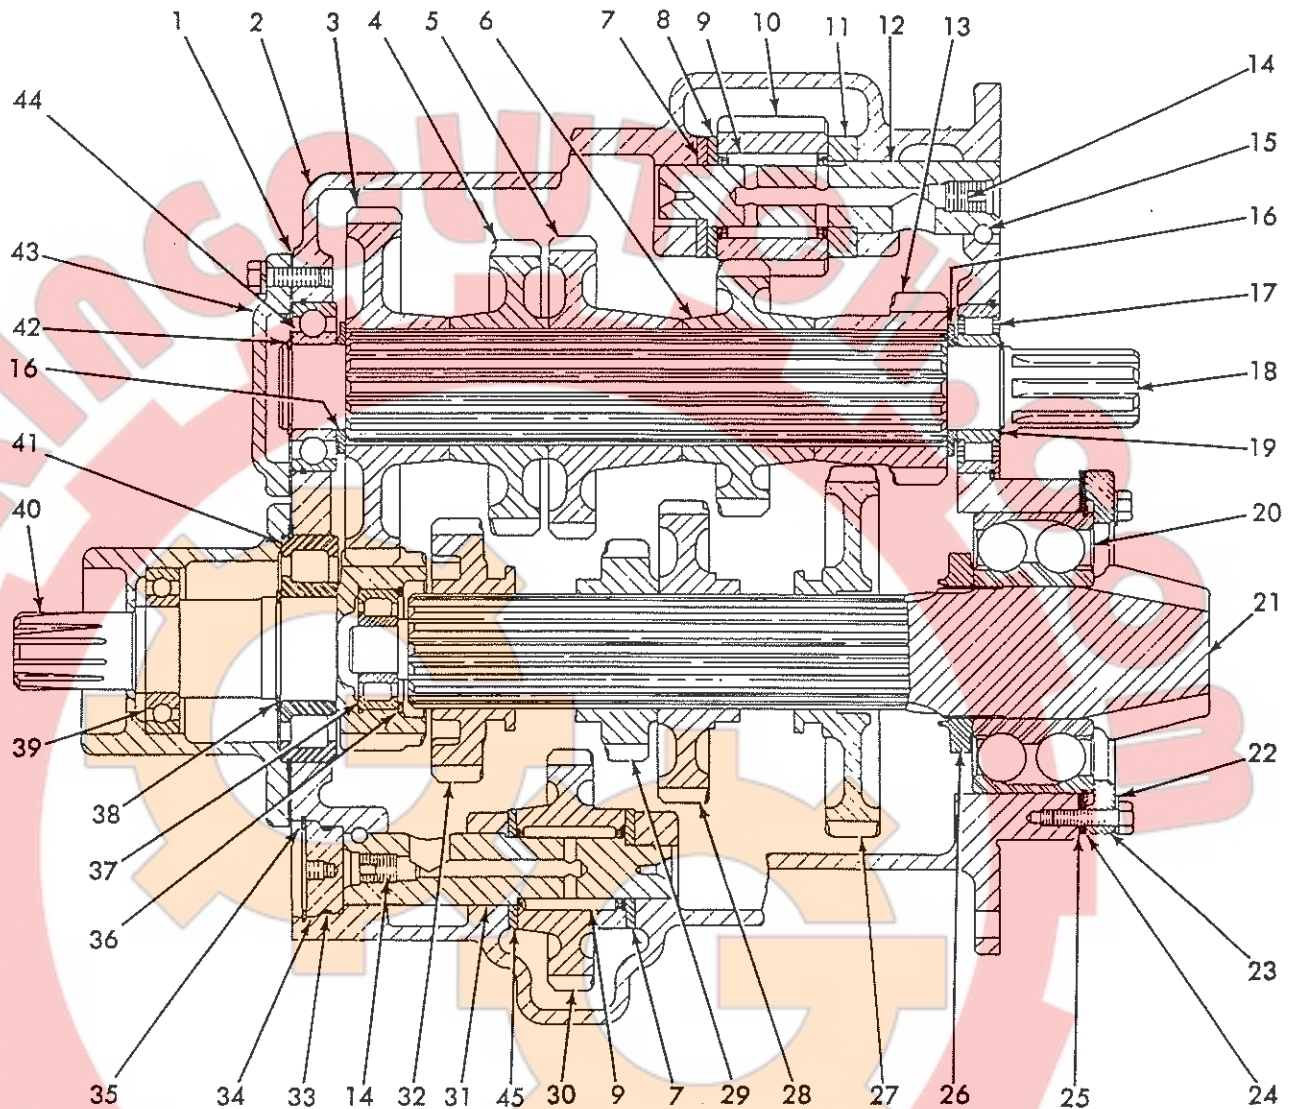

Fig. 7 Two Speed Reverse Transmission (Optional Equipment)
- d. Models with optional two speed reverse, install high speed reverse shaft assembly, Fig. 7, using preceding procedure.